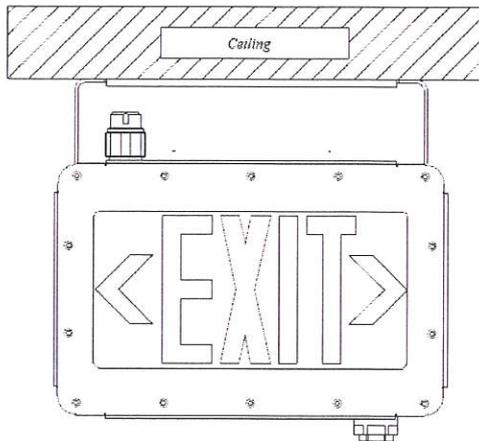
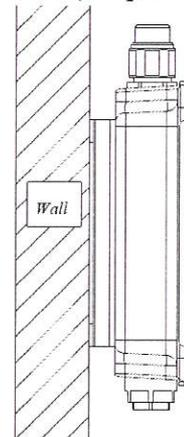

Figure 1
Figure 2
1. Insert the field wiring leads (2) through the conduit (not shown, provided in the field).
- ☞ The mount bracket is for the use of both Wall mount (Figure 1) and Ceiling mount (Figure 2).